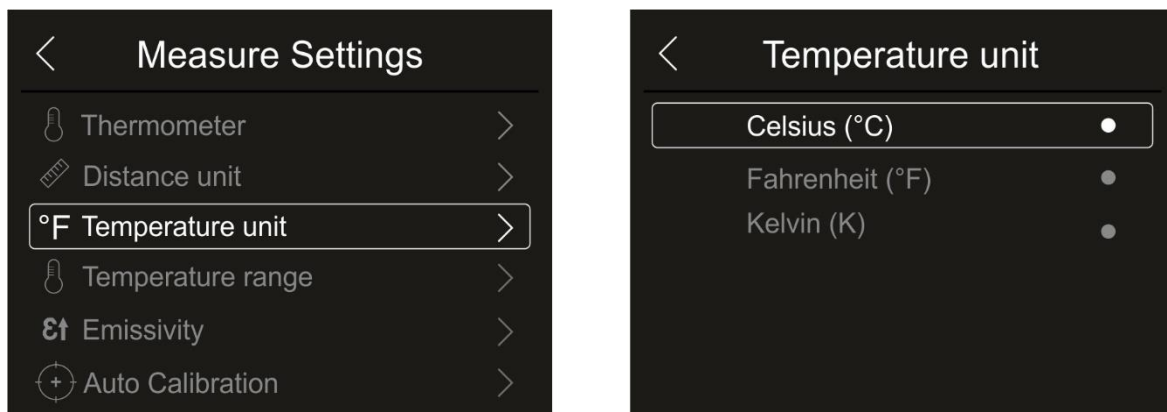

Fig. 26: Menu Setting the temperature measuring unit
1. Touch the item “Temperature unit” to set the measuring unit of temperature. The screen in Fig. 26 – right side appears on the display: